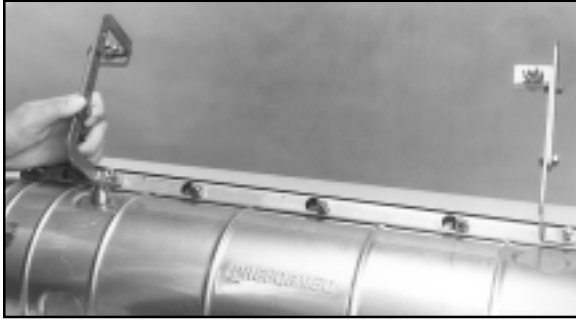

FIGURE 3 - POSITION BRACKETS ON BOLTS
3.02 Position the Adjustable Brackets on the 1/4" square head bolts with the clamps facing in the same direction. (Figure 3)